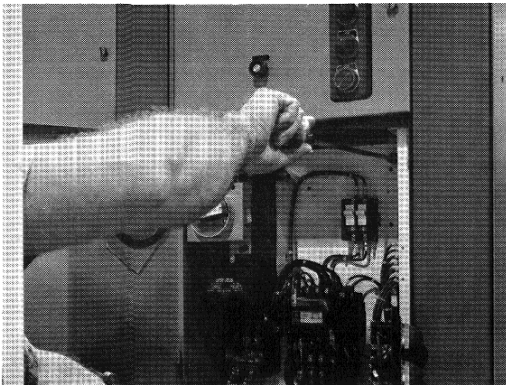

Figure 15.
3. Turn the one-quarter-turn-fasteners to release top and bottom of unit. (Figure 15)